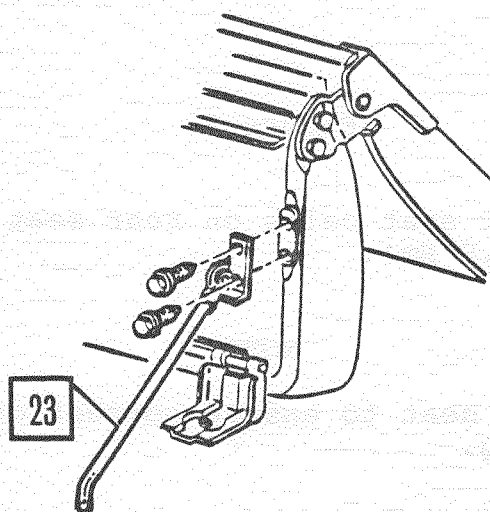

Figure 7.
21. Install new seat prop assembly (Figure 7.). Tighten bolts to 10-15 lb.-ft. (14.0-20.0 Nm).